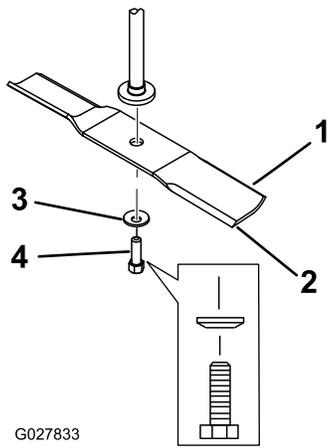

Figure 65
2. Remove the blade bolt, curved washer, and blade from the spindle shaft (Figure 65).
- Install the blade onto the spindle shaft (Figure 65).
- Install the curved washer (cupped side toward the blade) and the blade bolt (Figure 65).